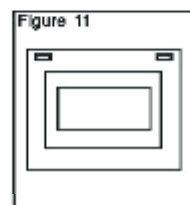

Figure 11
(3) Set the feet into the openholes at the back of the organism (shown in figure11)